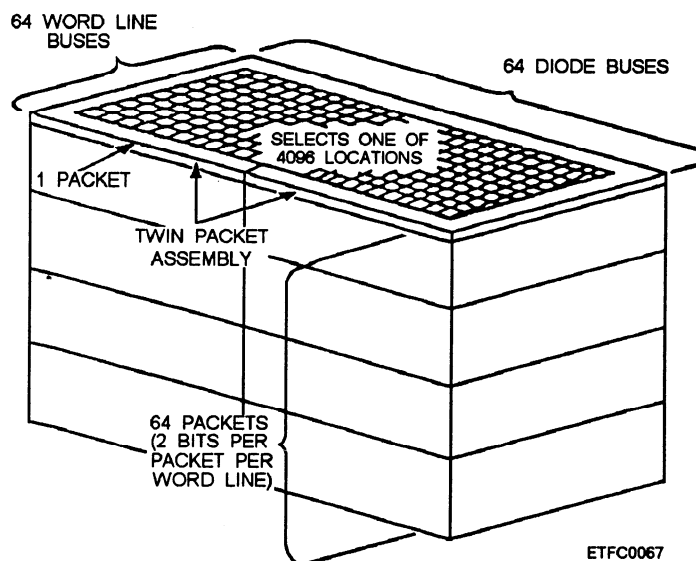

Figure 6-19.—Illustration of a memory stack.
**Memory Stack.** —In mated film memory, the packet is the building block of the film memory stack. The mated film memory stack contains all the film spots of the device, the associated circuitry that includes the word lines, sense/digit lines, and associated hardware. The associated hardware includes diode stick assemblies and boards (diverter, insulators, and ground planes, and alignment). Refer to figure 6-19 as an illustration of a memory stack.